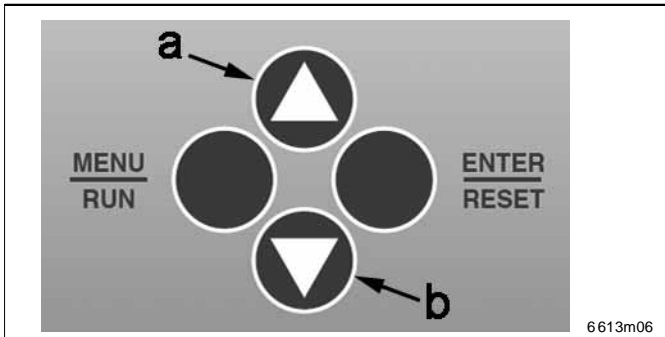

Fig. 33 Operating panel
As soon as you press the “UP” key (pos. a, Fig. 33) outside of the configuration mode, the actual rest of the expired pause time (Fig. D) or lubricating time (Fig. E) is shown in the display.
- ➔ In the case of a field bus connection, set the system-related address code 0001 to 0255 by means of the UP and DOWN keys (see Fig. 33).
- ➔ Complete your selection with the ENTER key (Fig. 33).
- ➔ Complete your selection (0) with the ENTER key (Fig. 33). If you do not acknowledge your selection with ENTER, the standard value of “0” is automatically set.